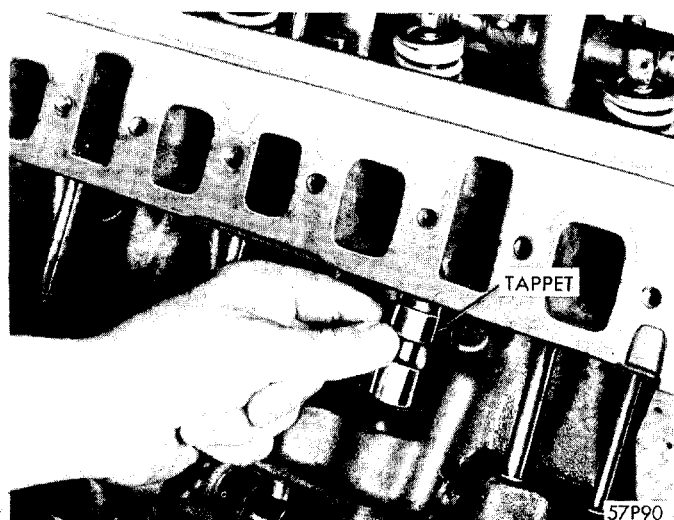

Fig. 11—Removing Mechanical Tappet
(1) Remove mechanical tappets from the tappet bore (Fig. 11). Place push rods and tappets in their respective places in Tool C-3068 since each part should be replaced in its original location.
(2) To remove the camshaft, remove all tappets and remove the timing chain and sprockets.